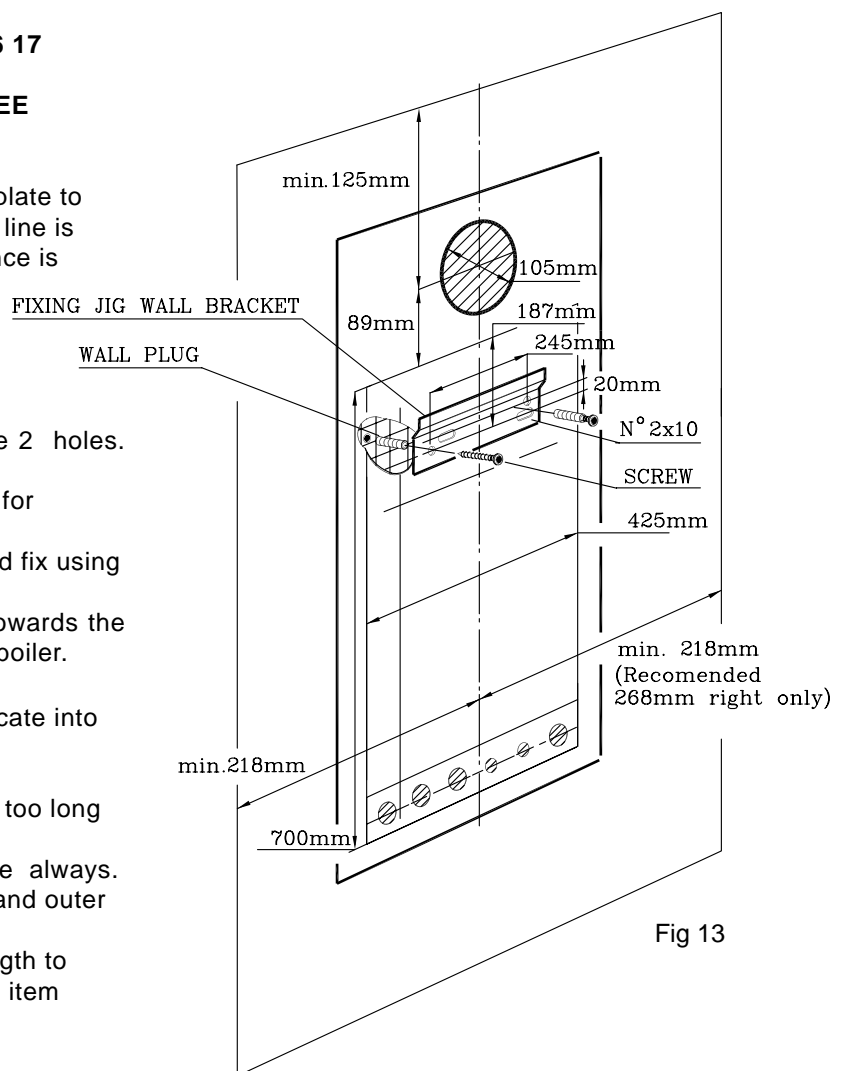

Fig 13
5.5 INSTALLING THE APPLIANCE FOR REAR FLUE OUTLET (Fig. 13 15 16 17 18 19).
- 5.5.1** Use adhesive tape to attach the template to the wall, making sure that the centre line is vertical and that the distance clearance is no less than that shown in Fig. 13.
- Fit the elbow header positioning it towards the required direction (Fig 13), onto the boiler.
- 5.5.5** Lift the boiler on to the wall (Fig.13), locating onto the fixing jig wall bracket.